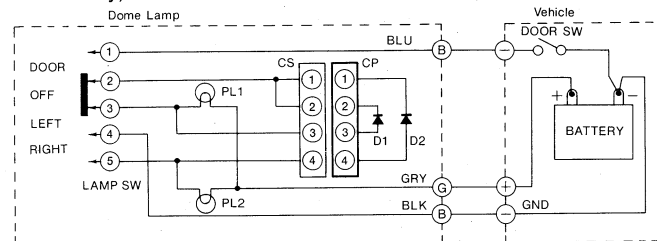

Fig. 45
1. In figure 45 transistor Q5 (Q6) will become ON, turning ON transistor Q7, if the output line (point A) is shorted to earth.